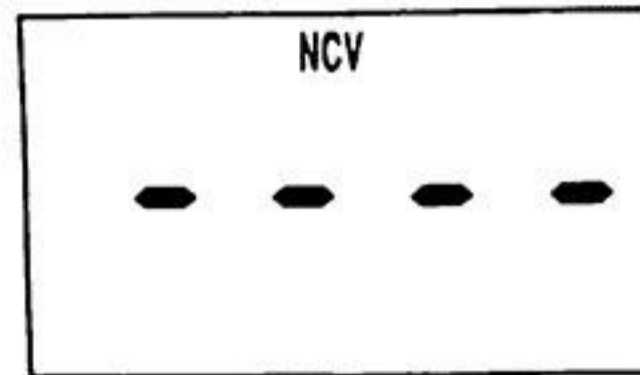

Figure 4
2. Move the center of the top of the meter where the NCV sensor is located ( see Figure 1 ) close to the object to be tested. When the meter detects electric field generated by ac voltage, the meter will indicate the intensity of the detected electric field. The intensity of detected electric field is indicated by the number of the bar segments at the vertical center of the display ( refer to Figure 4 ) and the beeping rate of the built-in buzzer. The higher the intensity of detected electric field, the larger the number of the bar segments on the display, and the faster the beeping rate of the buzzer.